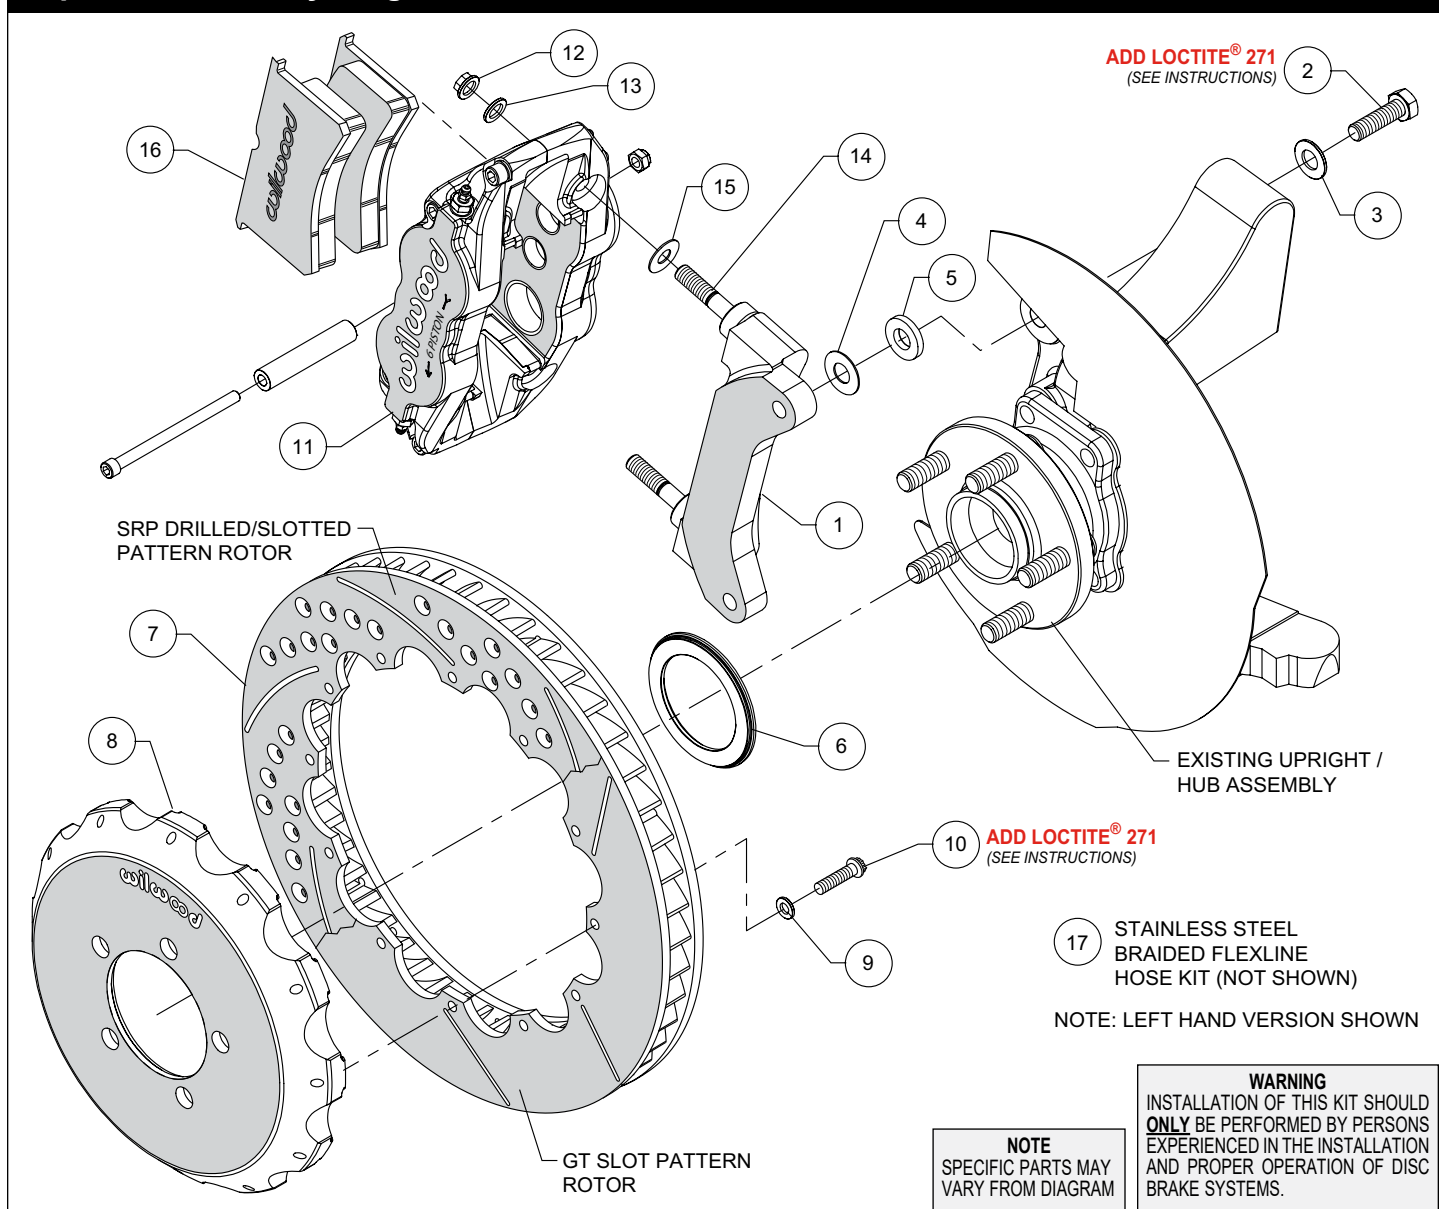
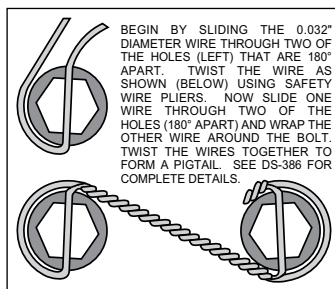

Figure 1. Typical Installation Configuration
Figure 3. Safety Wire Diagram
Assembly Instructions (numbers in parenthesis refer to the parts list and Figure 1 on the preceding pages):
- The caliper mount bracket (1) should initially be installed with clean, dry threads on the mounting bolts. Orient the bracket as shown in Figure 1 and Photo 1, and install using washers (3) and bolts (2). Initially place one shim (4) and spacer (5) on each bolt between the bracket and upright, Figure 1. Temporarily tighten the mounting bolts. **NOTE: The bracket must fit squarely against the mount bosses on the upright.** Inspect for interference from casting irregularities, machining ridges, burrs, etc. Later, after the caliper alignment has been checked, the mount bolts will be secured using red *Loctite*® 271.
- Orient the rotor (7) and the hat (8) as shown in Figure 1 and Photo 2. Attach rotor to hat using bolts (10) and washers (9). Apply red *Loctite*® 271 to the bolt threads and torque to 155 in-lb using a criss-cross pattern. For an added measure of security, the bolts may be safety wired using standard 0.032 inch diameter stainless steel safety wire as shown in Figure 3. Please refer to Wilwood's data sheet DS-386 (available at www.wilwood.com/Pdf/DataSheets/ds386.pdf) for complete safety wire installation instructions.
- Slide the rotor registration adapter (6) onto the axle register on the axle hub with the smaller O.D. facing outward, Photo 3. Slide the hat/rotor assembly onto the axle hub. **NOTE: The hat must fit flush against the axle hub flange or excessive rotor run out may result.** Install three lug nuts (finger tight) to keep the hat/rotor assembly in place while continuing with the installation.
- NOTE: This kit contains distinct right and left hand calipers that must be mounted in a specific direction, as described below.** Initially place one .035" thick shim (15) on each stud (14) as shown in Figure 1 and Photo 4. Mount the caliper (11) onto the bracket (1) using lock nuts (12) and washers (13), Figure 1. Ensure that the caliper is mounted so that the largest pistons are at the rotor exit end of the caliper, in relation to the direction of rotor rotation. Temporarily tighten the lock nuts and view the rotor through the top opening of the caliper. The rotor should be centered in the caliper, Photo 5. If not, adjust by adding or subtracting shims (4) between the bracket and the upright. Always use the same amount of shims on each of the two mounting bolts. Once the caliper alignment is correct, remove the bracket mounting bolts (2) one at a time, apply red *Loctite*® 271 to the threads, and torque to 60 ft-lb.